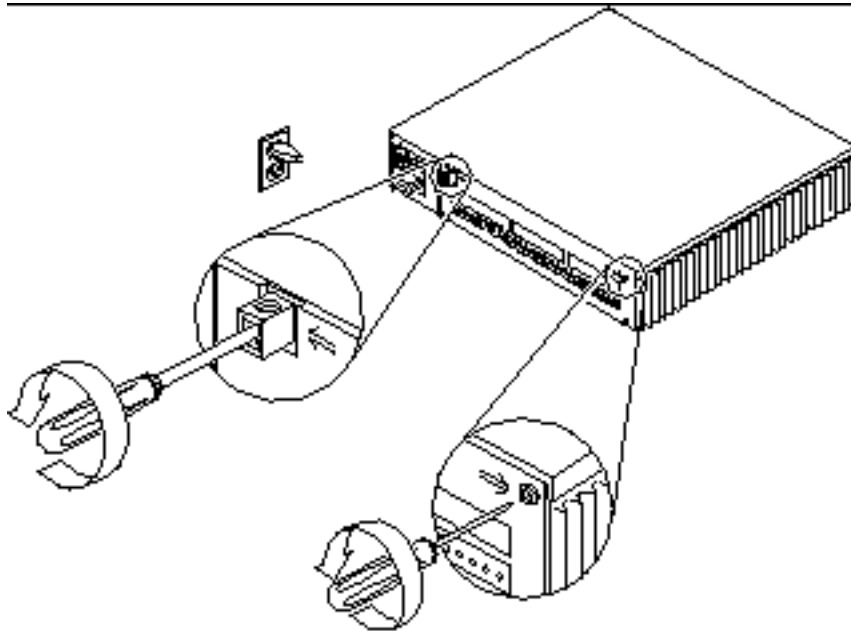

Figure 7-1 Removing the Rear Panel Cover Screws
2. Loosen the captive Phillips screw in the upper-right corner of the rear panel (see Figure 7-1).
3. Loosen and remove the Phillips screw that secures the lock block to the cover. Remove the lock block and put it aside (see Figure 7-1).